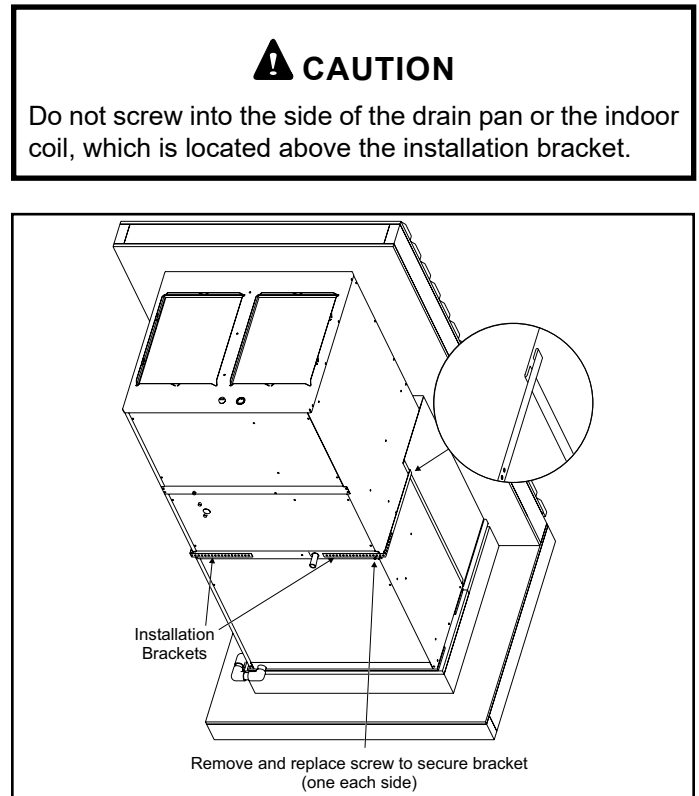

Figure 7. Securing Unit
4. Use the two installation brackets to secure the unit to the wall sleeve (see Figure 7). The units are shipped with the brackets placed loose on the unit top panel, beneath packaging. Hook each bracket into the front edge of the wall sleeve side panel. Position the bracket so it can be bent around the front corner of the unit. Remove one of the two screws in that position on the unit. Line up one of the holes in the installation bracket with the screw hole and attach the bracket to the unit with that screw. Make sure to fasten tight enough that the seal is maintained. Trim off excess bracket if applicable.